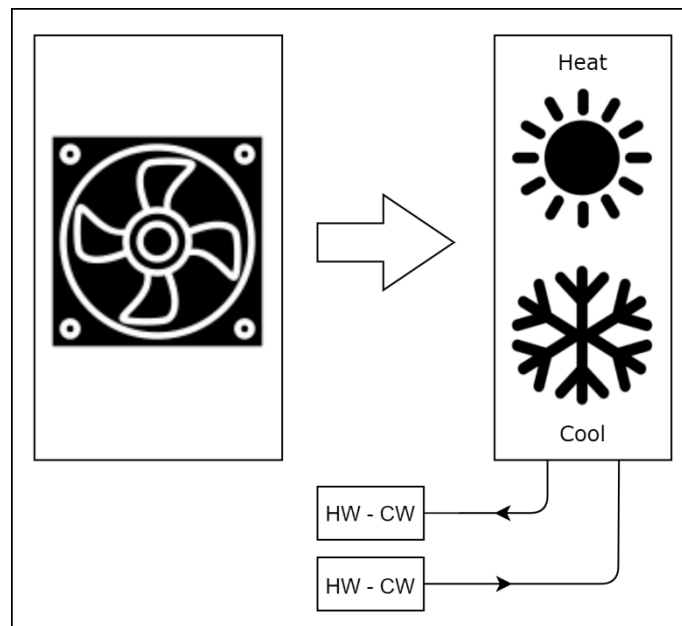

Figure 23 2 pipes fan coil system
The 2 pipes system consists of a single water source connected to two pipes as supply and return, and valve that can function as cold water (CW) or hot water (HW) depending on the mode of the system. This type of fan coil cannot work in cooling and heating mode at the same time. The operation of 2 pipes system is demonstrated in Figure 23.